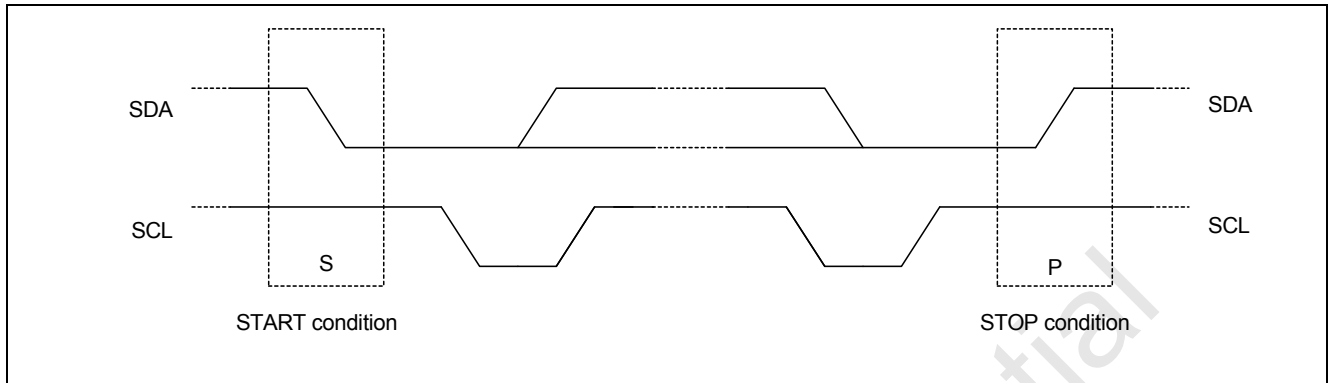

Figure 6.6.1.3 Definition of START and STOP conditions.
6.6.1.4. Acknowledgment (See Figure 6.6.1.4)